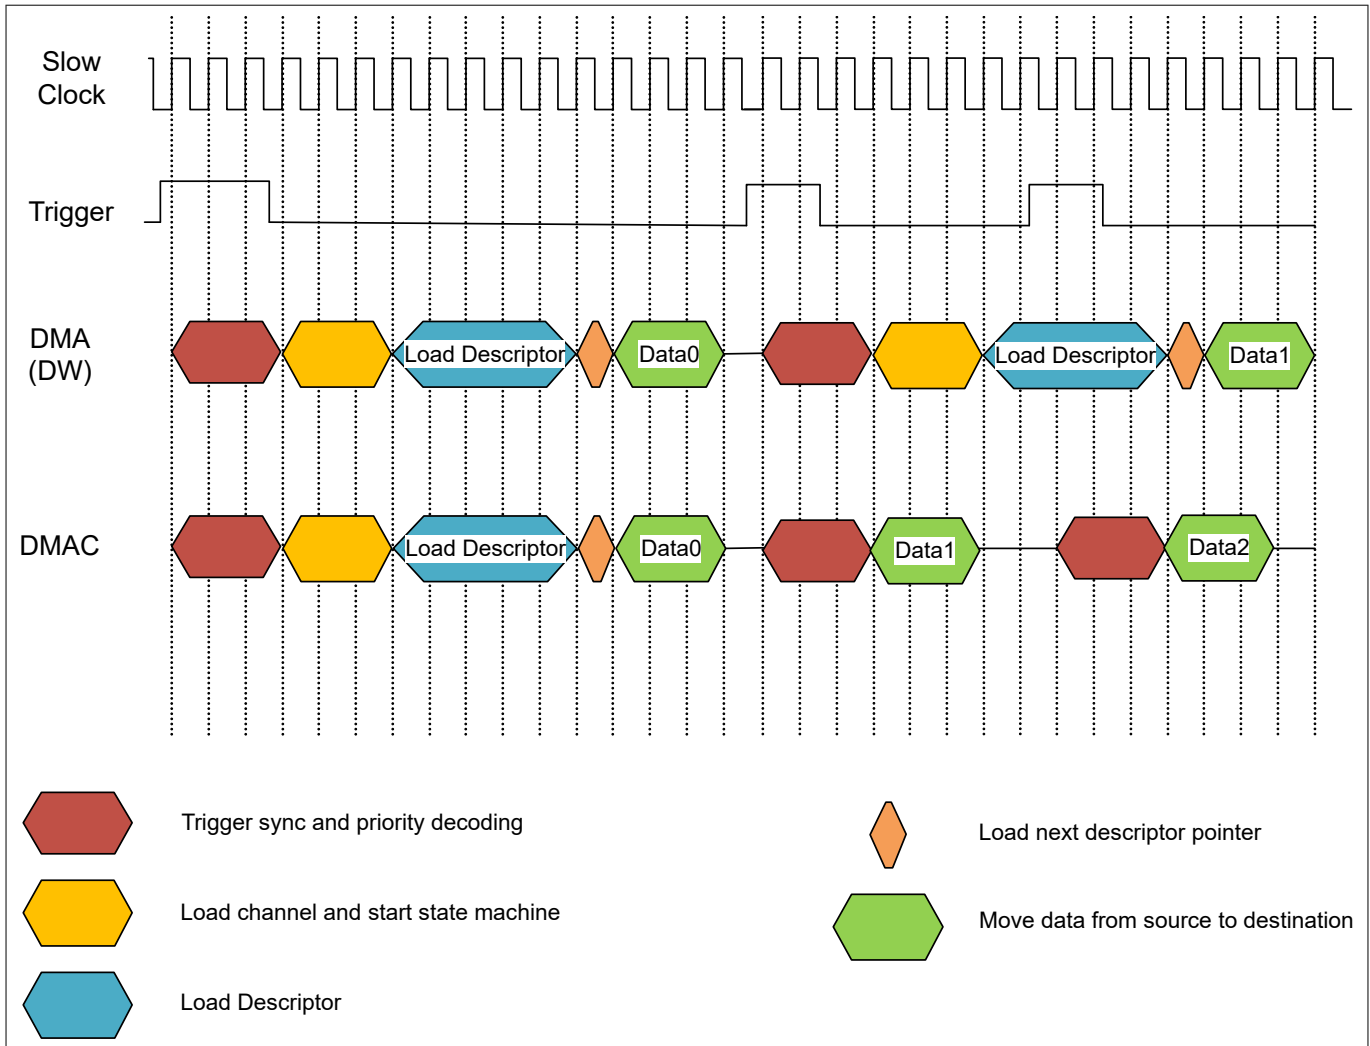

Figure 17 Performance comparison of DW and DMAC for a triggered mode of transfer
On DMAC, the DMA transfer engine logic is replicated per channel with channel-level memory to hold the state while switching channels. For every trigger, the DMAC does not have to fetch all channel and descriptor information. The only extra cycles incurred are for trigger sync and priority decoding. This means that DMAC will perform better in a transfer that is triggered multiple times. Figure 17 shows this comparison of performance between DMAC and DMA (DW) using a timing diagram.